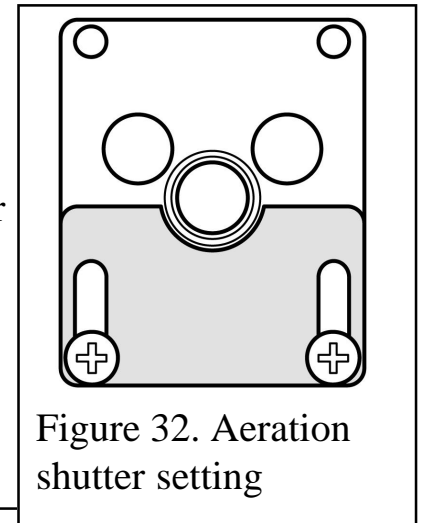

Figure 32. Aeration shutter setting
1. The aeration shutter is factory set and **will** require adjustment. **It is important to ensure that the aeration setting is correct (See figure 32).**
2. To adjust the aeration setting, loosen the two aeration shutter screws, slide the aeration shutter to the position shown in figure 32 and tighten the fixing screws.